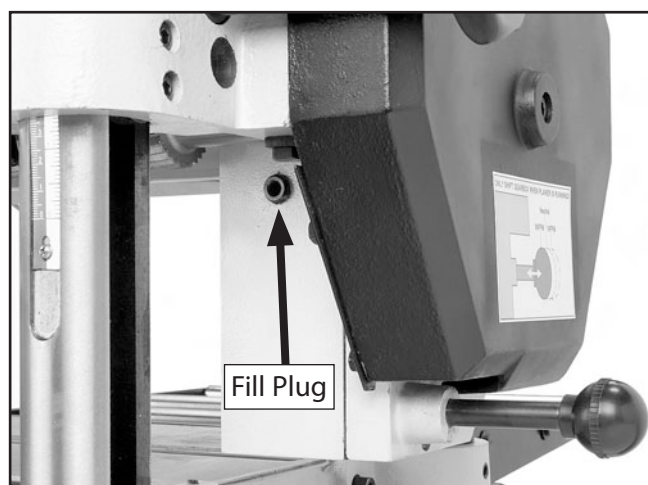

Figure 17. Gearbox fill plug location.
1. Remove the gearbox fill plug (**Figure 17**).